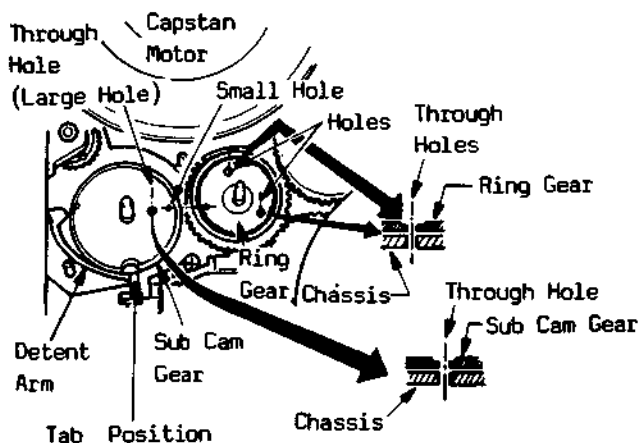

Fig.4-3
- Install ring gear pos. no. 120(2) so that the hole on ring gear is exactly in line with the hole of chassis as shown in Fig. 4-3.
- Install sub cam gear pos. no. 112(2) so that the hole on sub cam gear is exactly in line with the hole on chassis, at the same time, the small hole (located just outside of large hole) on sub cam gear is exactly in line with the hole on ring gear.